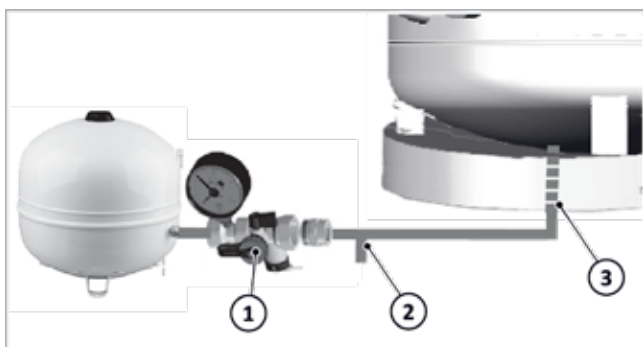

Fig. 10: Connecting the solar return and heating expansion vessel
- Remove the cap on the solar flow connection (1).
The corrugated pipe (→ fig. 10, 3) and the heating expansion vessel are connected at the solar return connection (2).